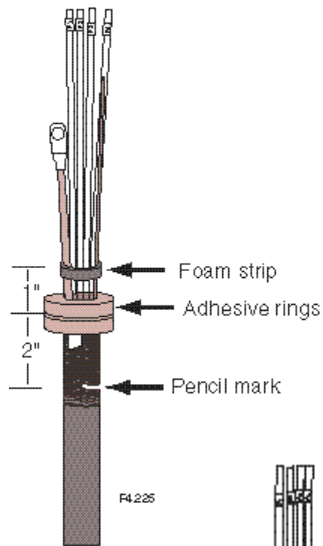

Fig. 7
- Place a tie wrap at the pencil mark on the sheath. Slide the appropriate heat-shrinkable tube over the adhesive rings. Let the tube slide down and rest on the tie wrap. (Figure 7, step 1, 2)
- Place a tie wrap around all the transportation tubes (and bonding wire if present) above the heat-shrinkable tube. (Figure 7, step 3)